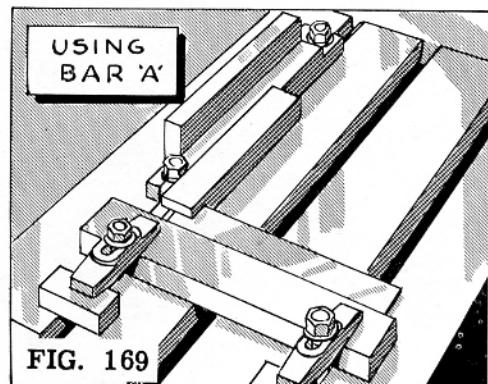

FIG. 169
NOTE: Either of the aligning bars, or strips, shown in Figures 169 and 170 may be used for this purpose. If the one at Fig. 169 is selected, it is held to the table with bolts which pass through the slot. The strip is secured to the table with clamps.
3. Place the strip on the table in the required position. In the case of Fig. 169, clamps must be used.
5. Place the beam of the square against the first aligning bar and adjust the second aligning strip parallel with and against the blade of the square (Fig. 169).